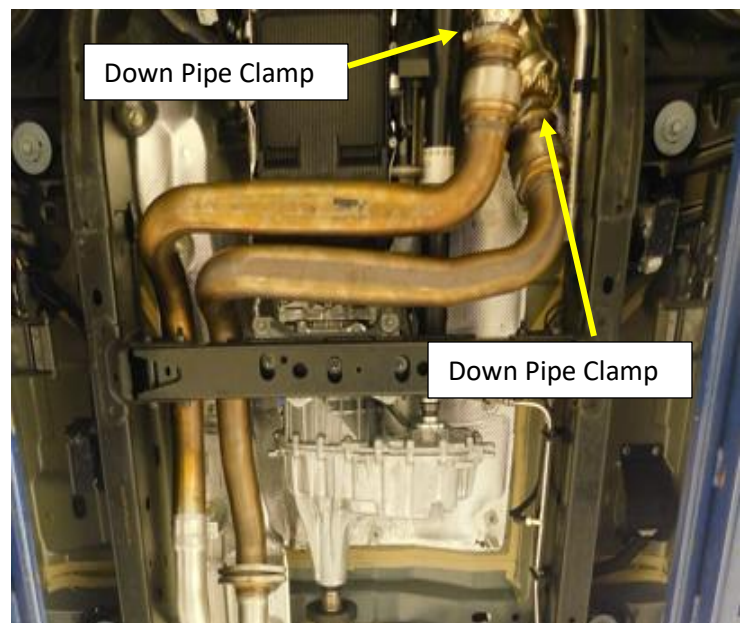

Figure.4 (H.O Shown)
- Remove the nuts from the clamps on the down pipe connection at the catalytic converter using a Ratcheting 16mm wrench. Remove the bolt and alignment spacer. **Fig.4**